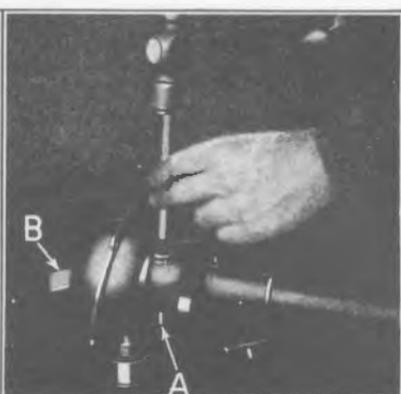

Fig. 332
**576** Turn universal joint until ends of universal joint pin line up with holes in housing. Pin can then be driven out with a hammer and drift (See "A" Fig. 332), and the universal joint "B" withdrawn from end of drive shaft.